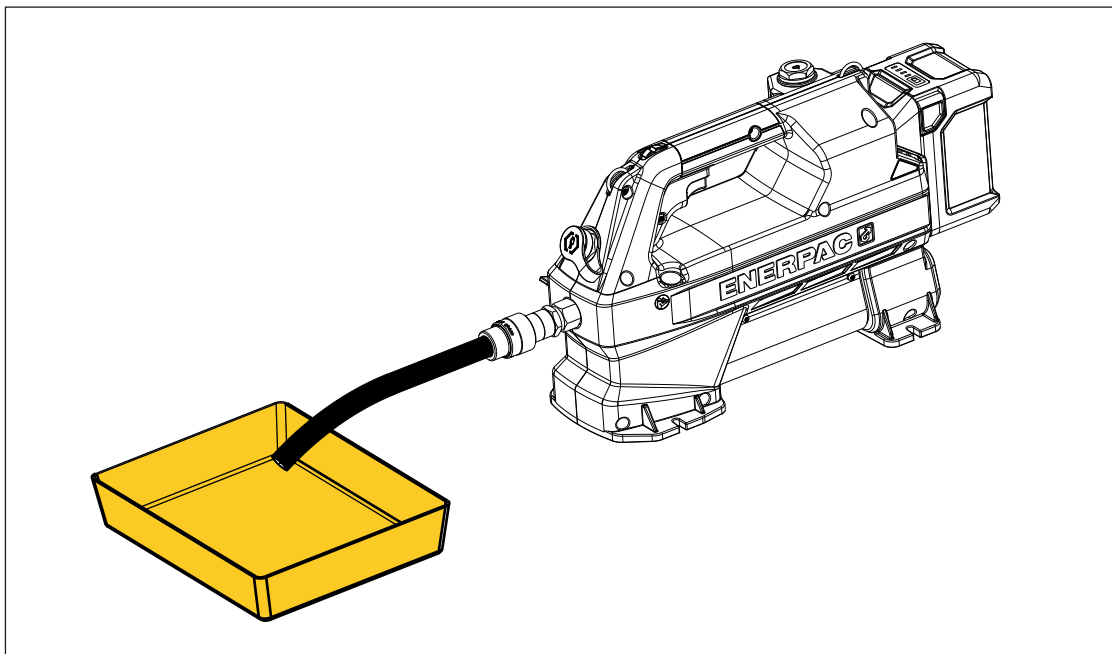

Figure 15: Draining the Hydraulic Reservoir
7. Turn on the pump power switch (I).
8. Pull the trigger switch upward to start the pump motor and begin draining the reservoir. Continue running the motor until oil stops flowing from the open-ended hose. Then, release the trigger switch. See Figure 15.